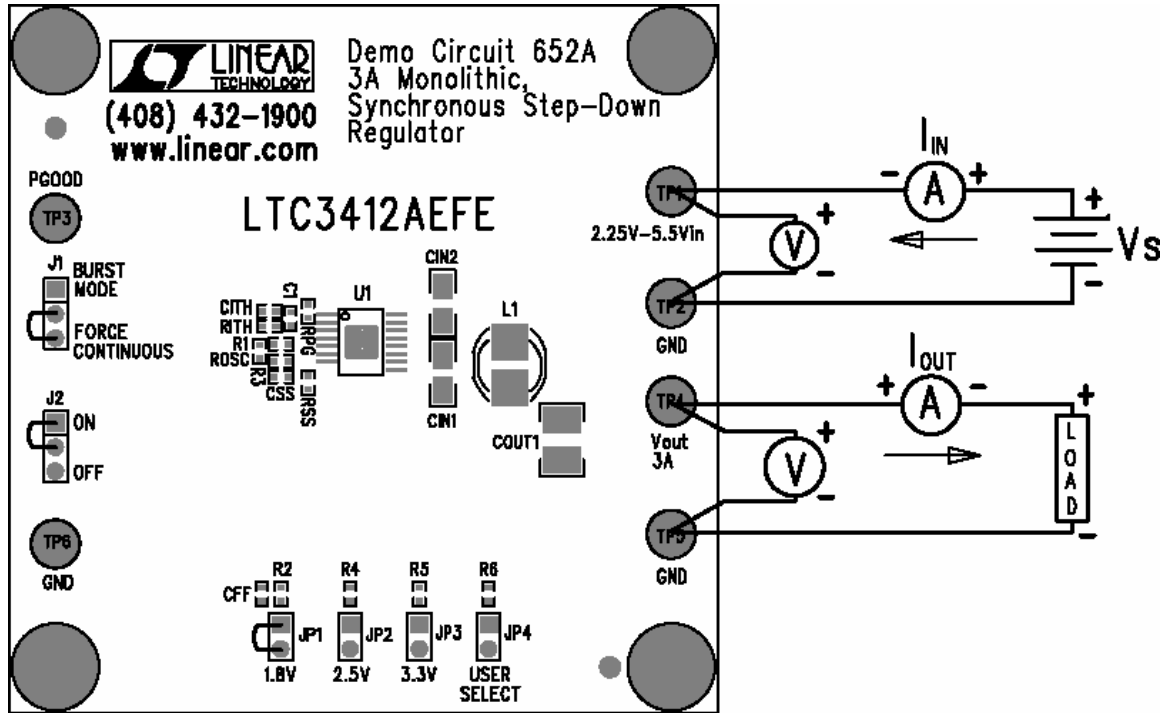

Figure 1. Proper Measurement Equipment Setup
The DC652 demonstration board is easy to set up to evaluate the performance of the LTC3412A. For proper measurement equipment configuration, set up the circuit according to the diagram in Figure 1. Before proceeding to test, insert jumper J2 shunt into
1. Connect the input power supply and the load to the board. Do not hot-plug Vin or increase Vin over the rated maximum supply voltage of 5.5V, or the part may be damaged. Refer to figure 1 for the proper measurement equipment setup.